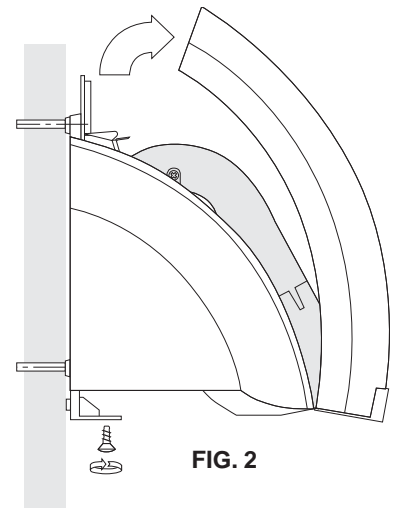

FIG. 2
5. Remove the two screws at the air outlet grill and the screw on the locking bolt (FIG. 2).
6. Pull down locking bolt. Remove front part of housing (FIG. 2).